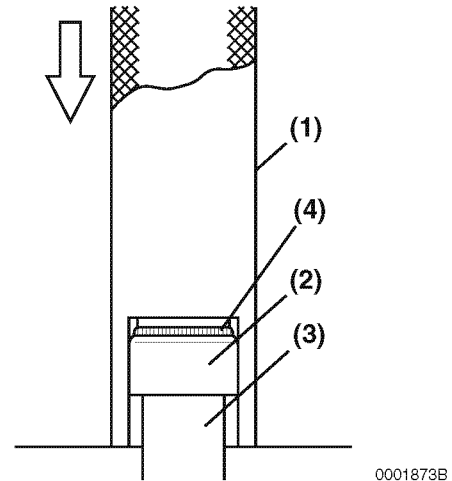

Figure 6-30
The exhaust valve stem seals are different than the intake valve stem seals and can be identified by either the paint marks on the outside of the seals or by the color of the seal spring (Figure 6-30, (4)). Ensure they are installed in the correct locations.
1. Oil the lip of the valve stem seal (Figure 6-30, (2)). Using the valve stem seal installation tool (Figure 6-30, (1)), install a new valve stem seal on each of the valve guides (Figure 6-30, (3)).